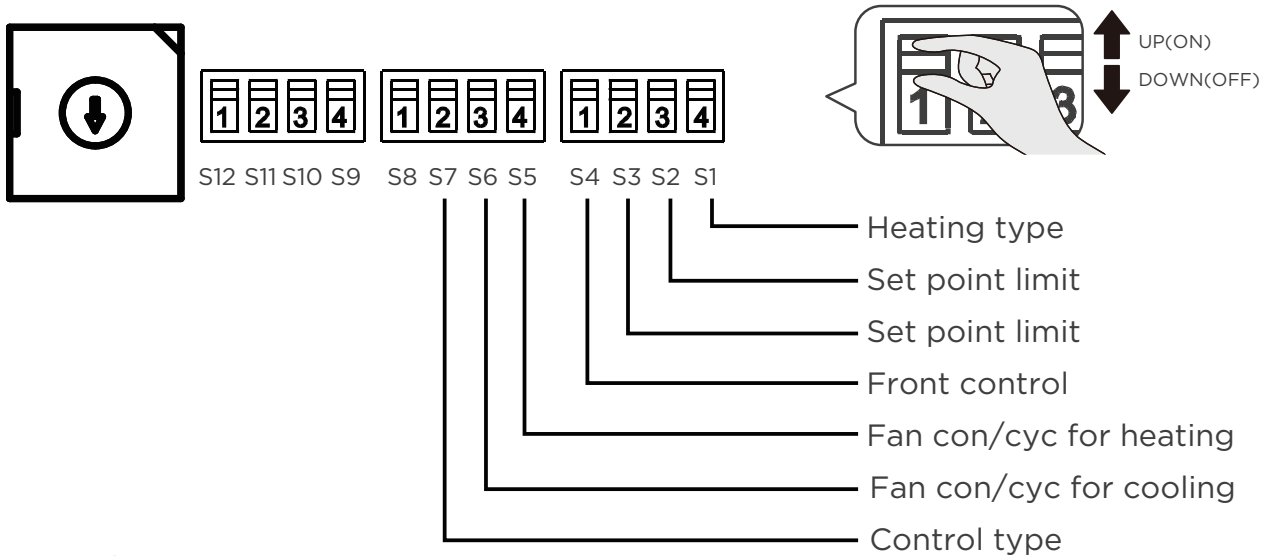

Fig. 11
- See Table 1 (on the next page) and Fig. 11 for DIP Switches configurations and functions of each DIP switch position.